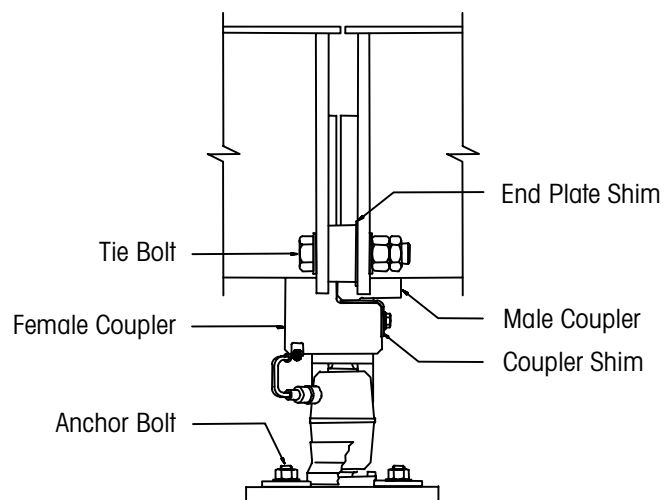

Figure 5-2: Module Alignment
- b. Set the first Middle Module in place by slowly lowering it and positioning the male couplers on the female couplers of the First Module (see Figure 5-2). The module will seat best if it is lowered almost level. Lower the other end onto the locating tools. Line up the bolt holes in the end plates of the two modules. Insert tie bolts through the holes. Place a washer and nuts on each bolt, but do not tighten them completely.